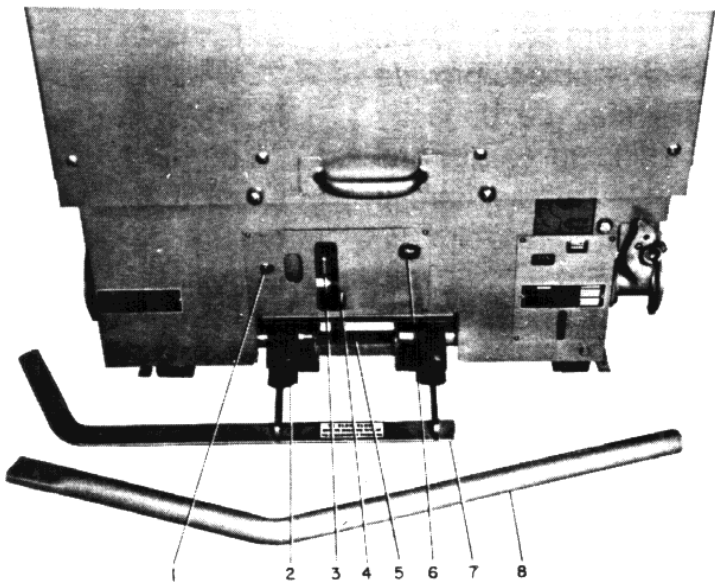
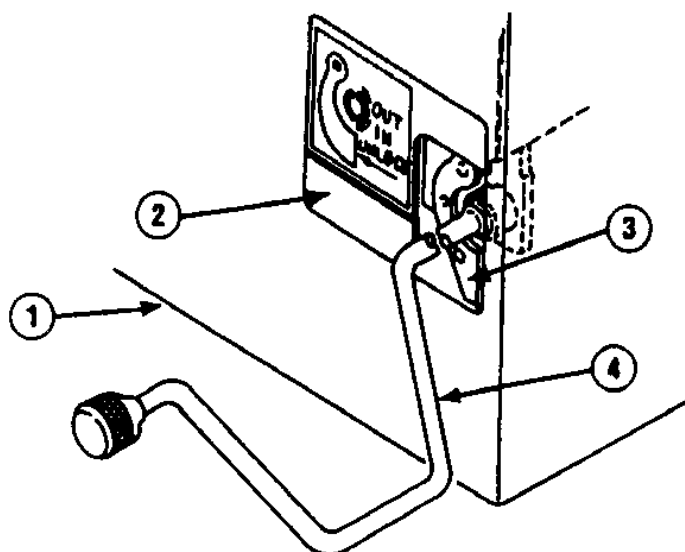

Fig. 3 - Front Circuit Breaker Panel & Accessories
Fig. 4 — Method of Racking Circuit Breaker
Installing Circuit Breaker into Compartment (See Figs. 3&4)
Turn motor disconnect switch (1, Fig. 3) to "OFF" position. Engage racking crank (4, Fig. 4) and push racking unlocking lever (3) to left, then rotate racking crank counterclockwise only until resistance to motion is felt (DO NOT FORCE). If closing springs were left in the "charged" condition, they will automatically discharge.
For installing the circuit breaker into the lower compartment, the fifth wheel is used to position the breaker so that it is lined up with the switchgear. Engage the fifth wheel (12, Fig. 3) with hole (5, Fig. 3). The lift device is required to lift and position the breaker for installation into the upper compartment. Guide and push circuit breaker into compartment until stopped. Again engage racking crank and rotate clockwise until racking mechanism automatically stops at "DISCONNECT" position. (Breaker is now held captive in compartment.)
To rack circuit breaker to "TEST" position, push racking unlocking lever (3, Fig. 4) to left, rotate racking crank approximately 1/4 turn clockwise, then release unlocking lever. Continue cranking until racking mechanism automatically stops at "TEST" position.
With the circuit breaker racked to "TEST" position, it should be checked for proper operation by operating all possible means of opening and closing, this includes control switches, relays, etc. Turn motor disconnect switch (1, Fig. 3) to "ON" position to charge the closing springs, and operate the breaker as required.
When racking circuit breaker to "CONNECTED" position, move compartment door (1, Fig. 4) and insert crank (4, Fig. 4) through sliding panel (2, Fig. 4).
CIRCUIT BREAKER REMOVAL (See Fig. 4)
2. Fully closed breaker (See Fig. 3). Charge the closing springs and turn the motor switch (1) off. Close the breaker. Engage manual charge handle (3) with charging lever (3). During the initial portion of the downward stroke of the handle check to see which direction the closing spring guides (2) move. If the spring guides start to move out then the breaker did not fully close. If the spring guide begins to move in and with additional pumping moves in until the mechanism can be heard to "snap in", then the breaker did not fully close originally. Excess contact pressure or friction can cause this condition and if it cannot be relieved then the factory should be consulted.